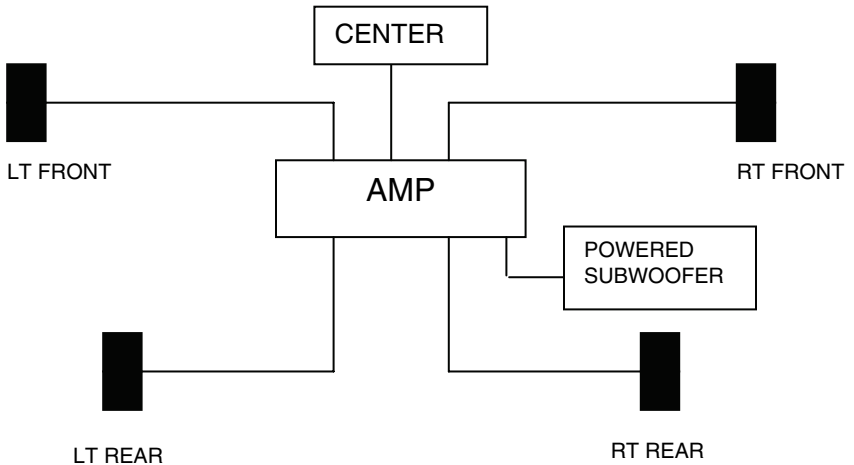

Figure 3
- An amplifier with a subwoofer output connection, usually a RCA type connector would be the preferred connection when used with the MNCS subwoofer (see figure 3). A shielded audio cable is required for this setup with a Y-adaptor connecting the audio cable to left and right “LINE INPUT” on the subwoofer.